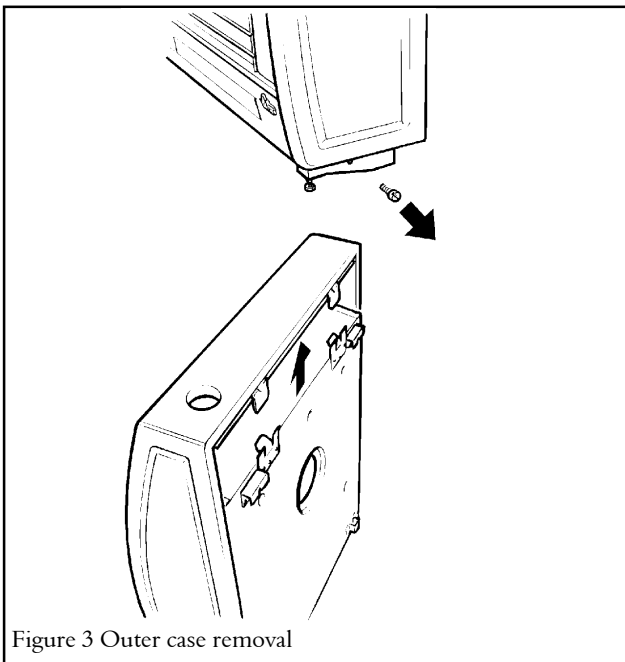

Figure 3 Outer case removal
- 3.3.3** Remove the outer case retaining screws at the bottom sides of the fire (Figure 3).
- 3.3.4** Lift the outer case up and forward to clear the top retaining brackets and the gas tap spindle (Figure 3). Put the case in a safe place.
- 7.2.2** Remove the outer case retaining screws at the bottom sides of the fire (Figure 3).
- 7.2.3** Lift the outer case up and forward to clear the top retaining brackets and the gas tap spindle (Figure 3). Put the case in a safe place.